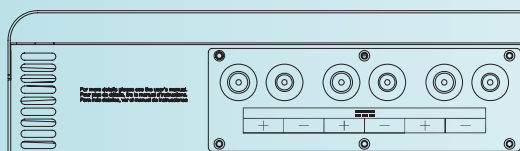

Fig. 13
- Connect the positive polarity to the (+) pins on the device's DC input and the negative polarity to the (-) pins (Fig. 13).